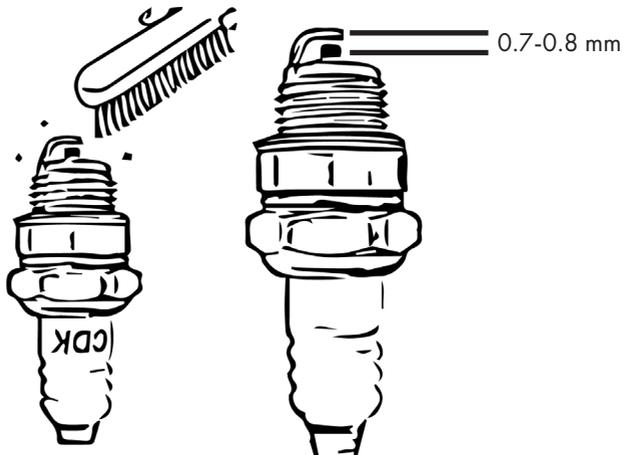

Figure 33
- Set the electrode gap to a target value of 0.7-0.8 mm. See Fig. 33.